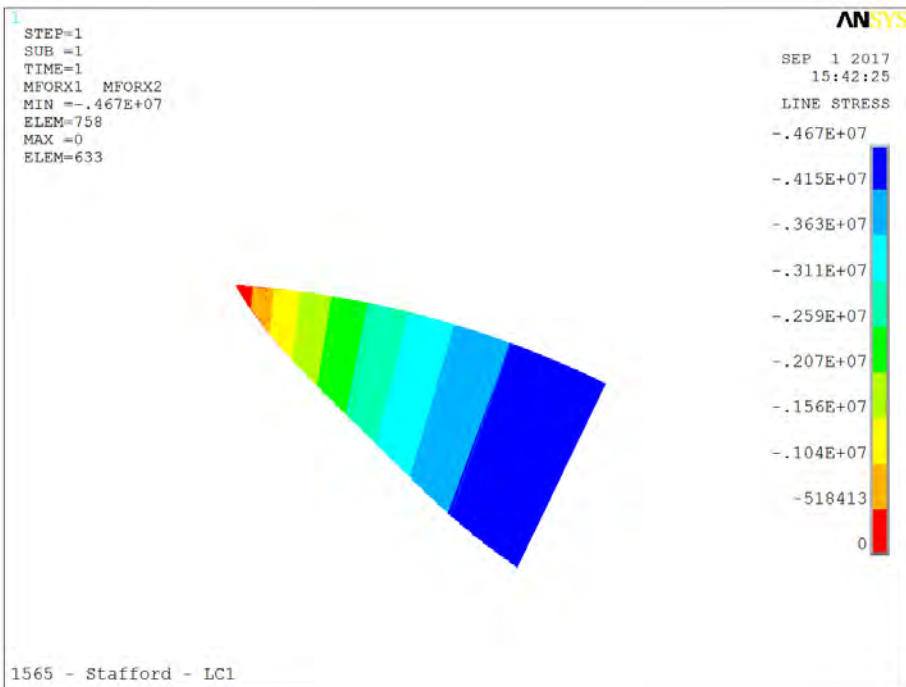

Fig. 1A
- **Fig. 1A - Dome axial force (lbs/360)**